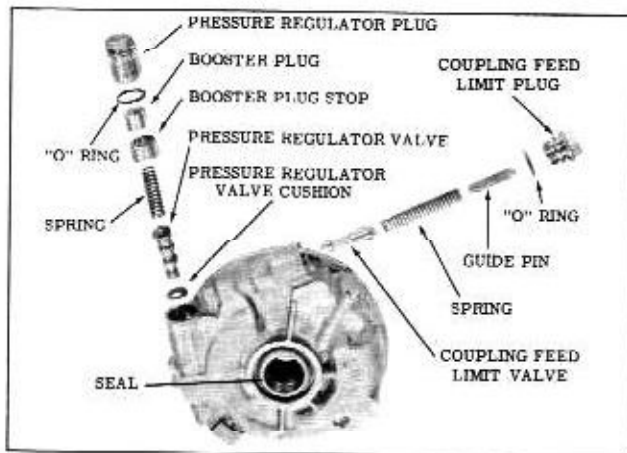

Fig. 3-63 Limit Valve and Pressure Regulator
7. Remove the coupling feed limit plug and "O" ring. (Fig. 3-63)
9. Remove the pressure regulator plug assembly and "O" ring. (Fig. 3-63)